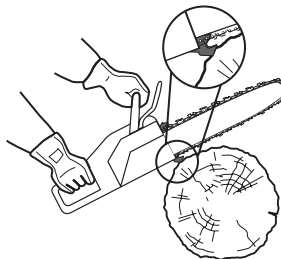

Fig. 30
- > The saw chain (3) must be running at full speed before it makes contact with the wood. Use the spike bumper (18) to secure the product onto the wood before starting to cut and use it as a leverage point while cutting (Fig. 30).